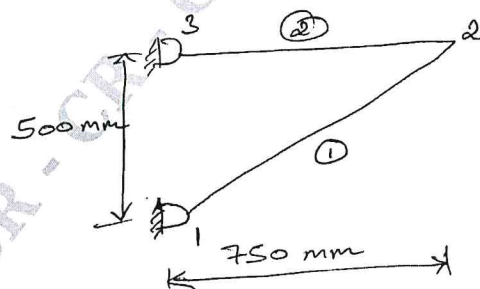

Fig.Q4(b)
- b. A truss shown in Fig.Q4(b) made up of 2 bars. Determine nodal displacement, stress in each element. Take $A_1 = 1200 \text{ mm}^2$; $A_2 = 1000 \text{ mm}^2$ and $E = E_1 = E_2 = 2 \times 10^5 \text{ MPa}$.